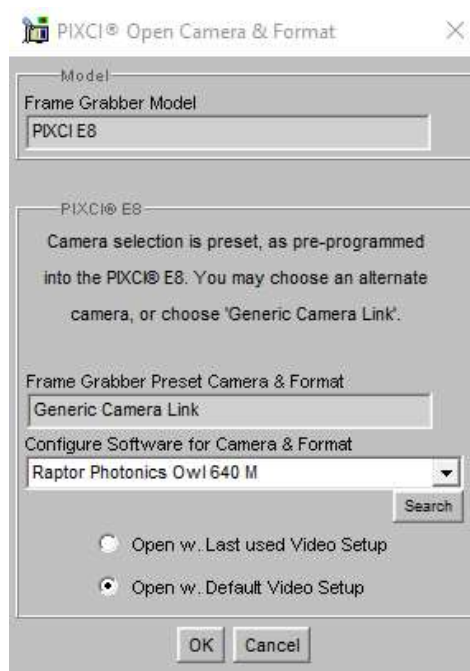

Figure 2: Camera Selection
4. Using the dropdown menu scroll down and select Raptor Photonics OWL-CL-640 from the list (Figure 2). Selecting OK when done.